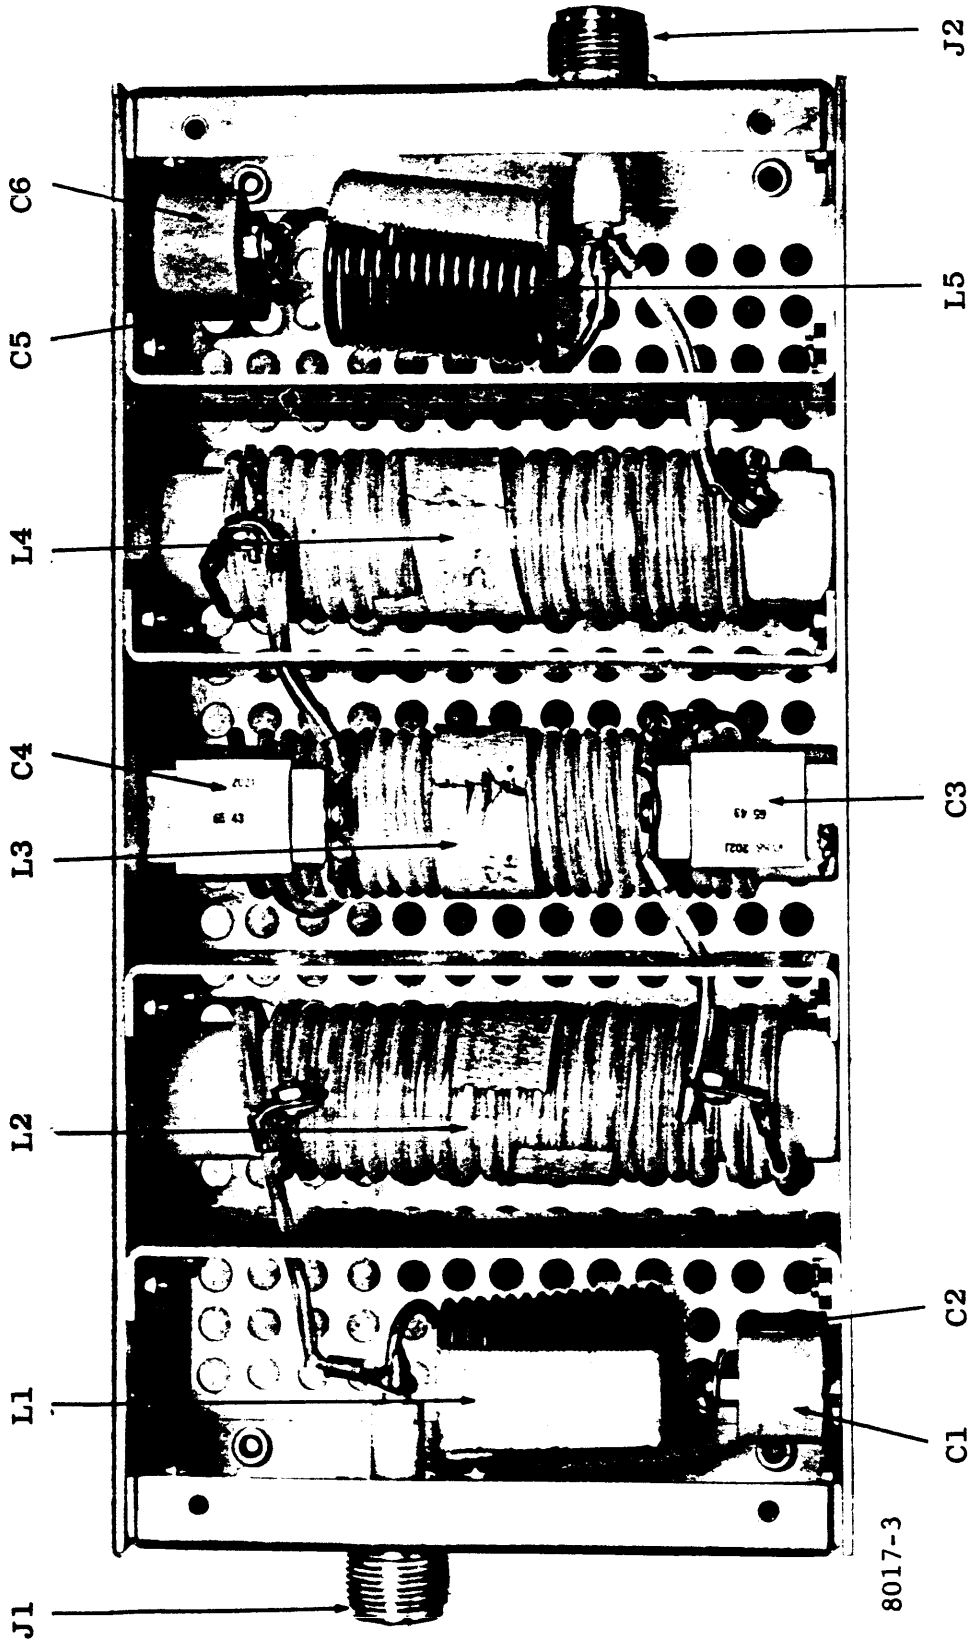

Figure 5-1. Location of Major Components, LPF-750-3
b. At periodic intervals, the equipment should be removed from its mounting for cleaning and inspection. All accessible covers should be removed and the wiring and all components inspected for dirt, corrosion, charring, discoloring or grease. (See figure 5-1 for location of major components). Remove dust with a soft brush or vacuum cleaner. Remove dirt or grease from other parts with any suitable cleaning solvent. Use of carbon tetrachloride should be avoided due to its highly toxic effects. Trichlorethylene or methyle chloroform may be used, providing the necessary precautions are observed.